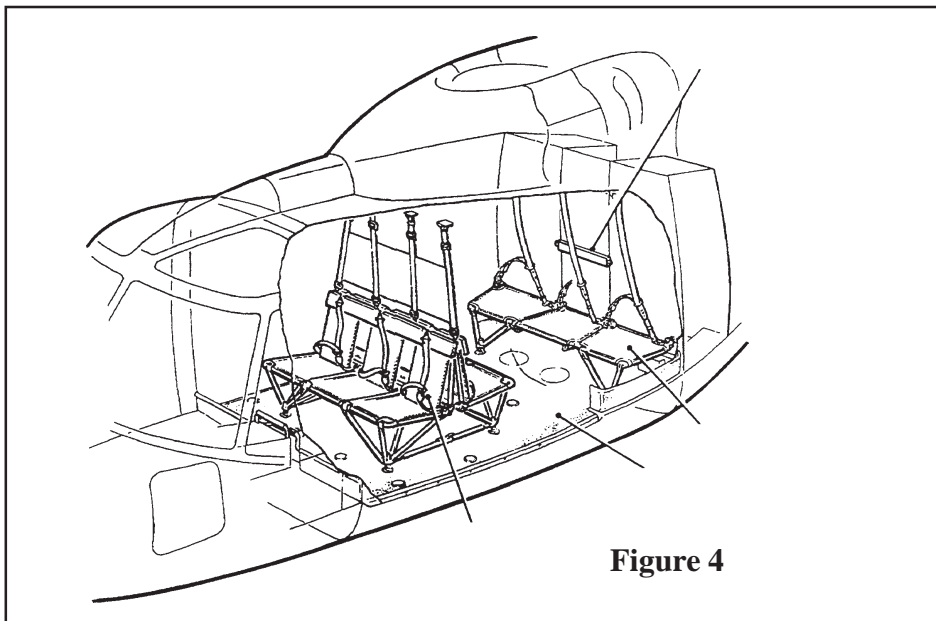

Figure 4
14. Some other navies use a sling-type rear troop seat (part 15). You will need to build the seat supports from 0.030" (0.75mm) rod or brass wire. I would suggest making a jig from sheet plastic, drilling a hole pattern with the seat template, fit the uprights into the jig, attach the seat and additional braces and then remove the whole assembly from the jig. The after sling seat (part 16) also requires you to build the seat supports per Figure 4. However, when completed it will be attached to after bulkhead, so no